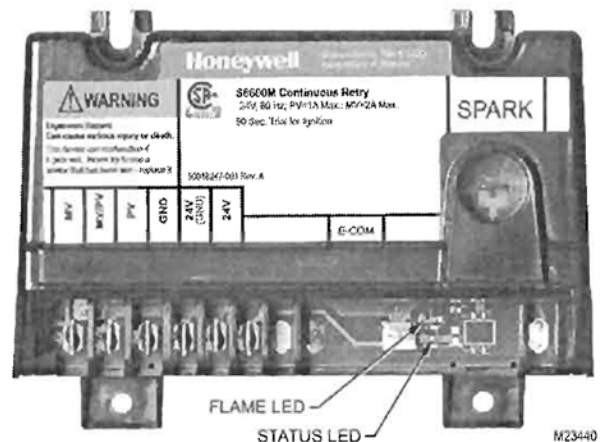
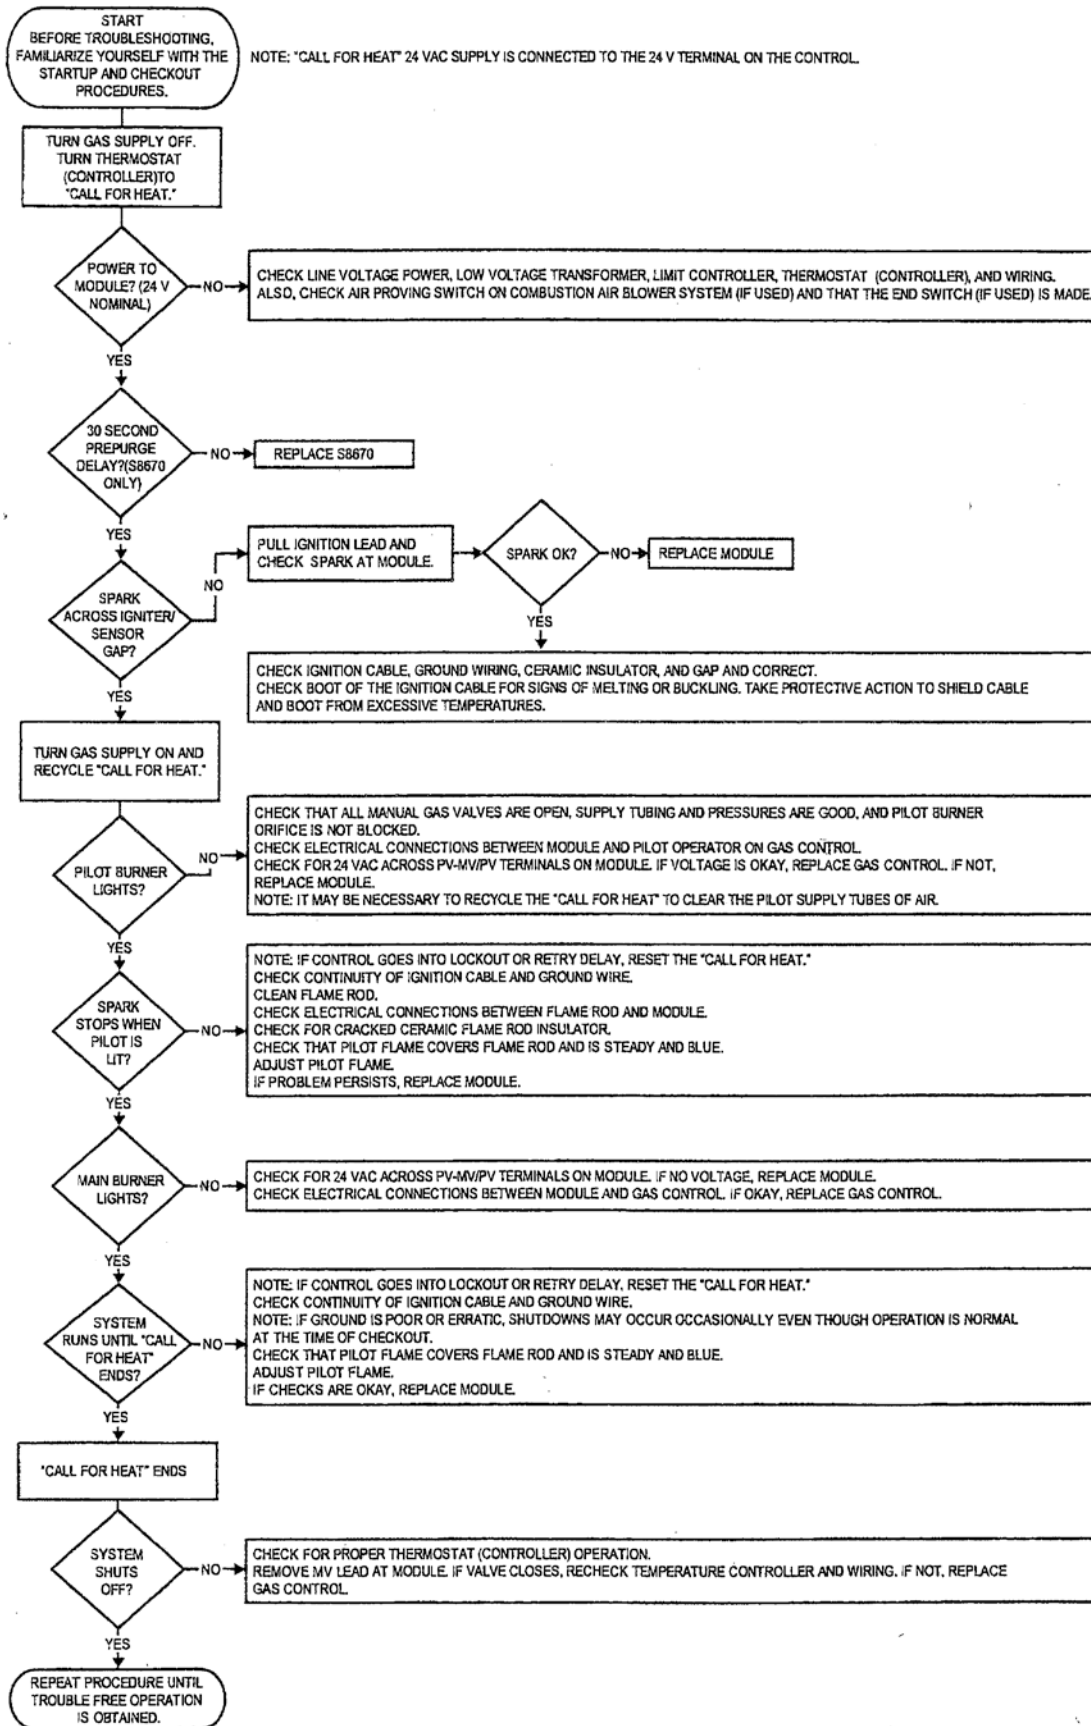

Figure 17: LED Locations
Figure 18: Troubleshooting Guide
2. Electronic Ignition Modules with LED indicators. Table 10 cross-references the ignition module terminal designations to the ignition terminal numbers in the wiring ladder diagrams. The yellow LED indicates the status of the flame, see Table 11. The green LED indicates the status of the system, see Table 12. See Figure 17 for LED locations. See Figure 18 for Troubleshooting Guide.